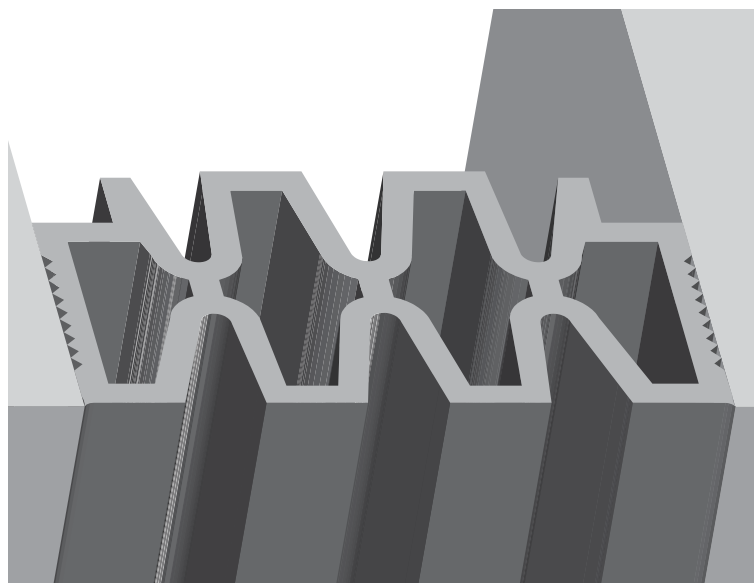

Figure 5—Placement of Joint in a Smooth Installation
3. Compress the seal, with the smooth side out, and insert it into the joint (Figure 5).